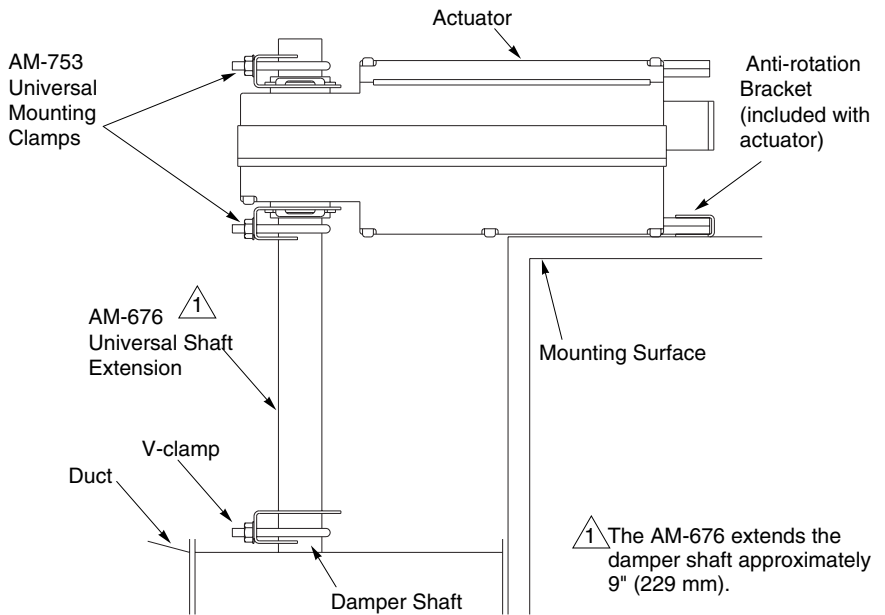

Figure-10 Installation of Universal Shaft Extension.
See Figure-10 for installation of actuator using the AM-676 Universal Shaft Extension. Installation requires AM-676 Universal Shaft Extension and AM-753 Universal Mounting Clamps for 3/4" to 1" (19 to 25 mm) shafts, these items must be ordered separately.
8. Position the actuator and bracket in the desired final mounting position on the mounting surface and drill mounting holes. See Figure-10.